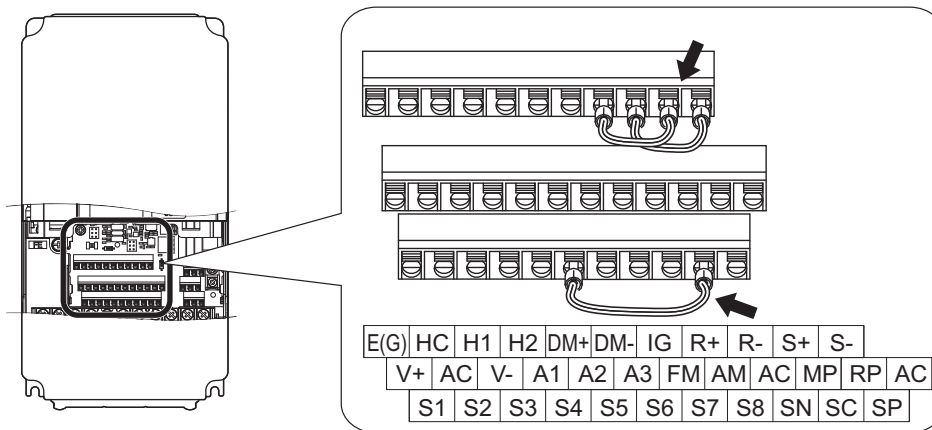

Figure C.8 Terminal Connections for Communication Self-Diagnostics
4. With the power off, wire the drive as shown in **Figure C.8**, connecting terminals R+ and S+, R- and S-, and S6 and SC.